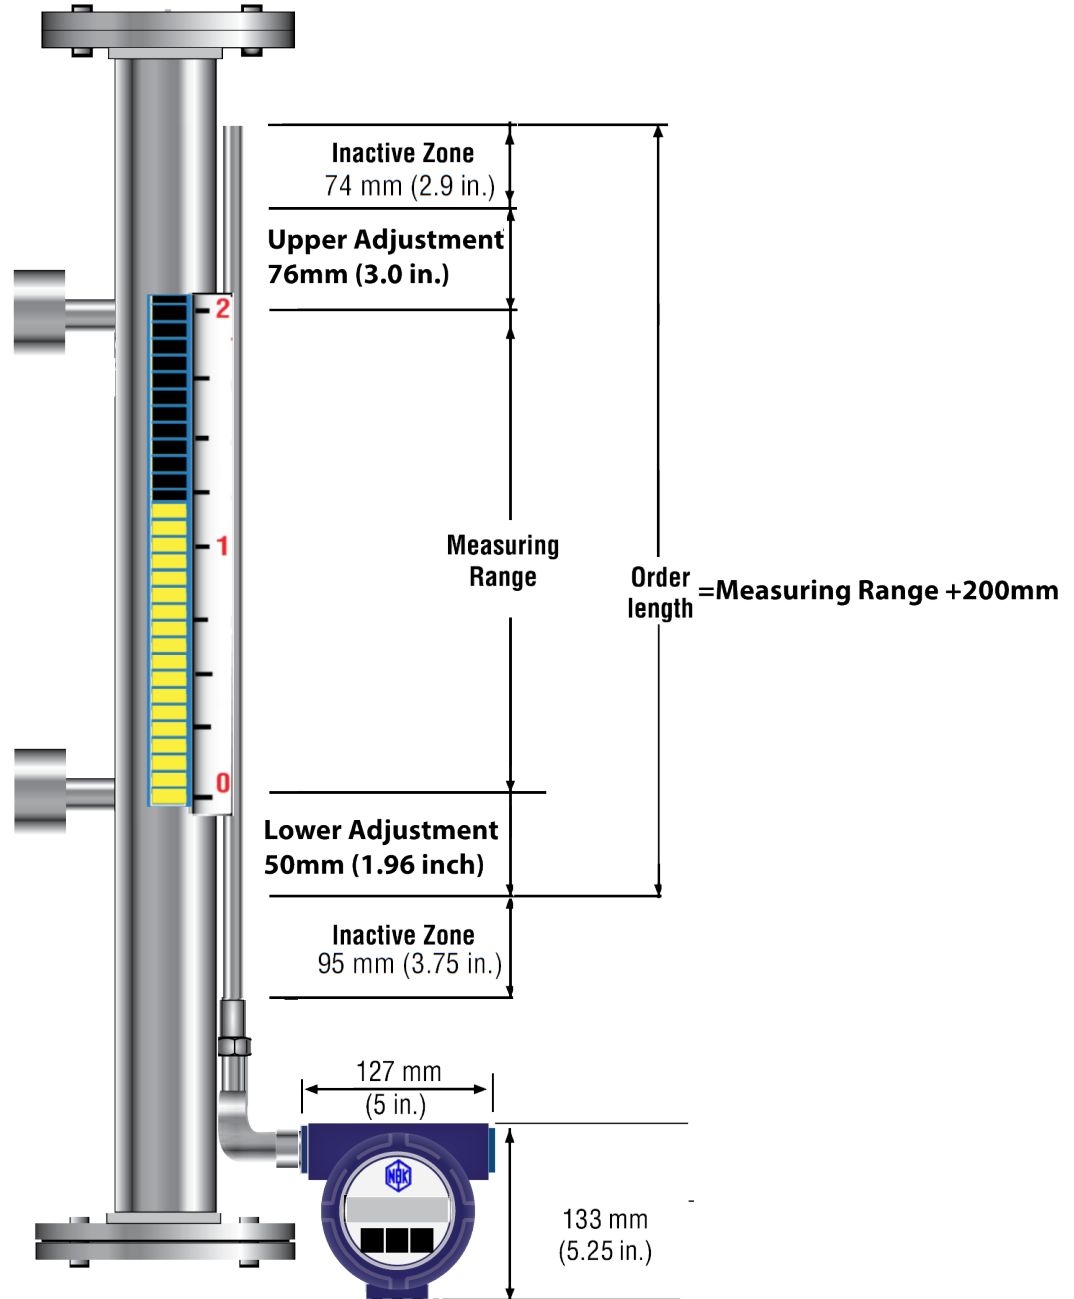

Figure 2. Model MR mounting, top and bottom flange
Nihon Klingage offers the Level Plus Model MR3/4 transmitter configured for external mounting to most Magnetic Level Gauges (MG) (see 'Figure 2'). The model MR can be ordered with the standard 5/8 inch OD pipe or the optional 1/2 inch OD pipe from 508 mm to 5000 mm. Stainless steel hose clamps are typically used to secure the model MR to the MG.